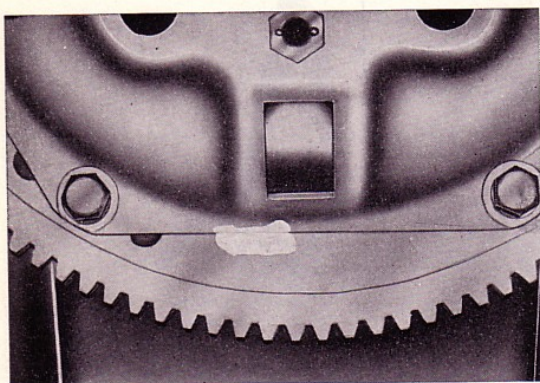

Fig. 9. Line-up marking of clutch and flywheel
6. Check that the clutch and flywheel are marked with paint as shown in Fig. 9. Otherwise, mark the clutch, flywheel and pressure plate with a centre punch. This must be done in order to ensure that the clutch is re-fitted in the same position as previously.